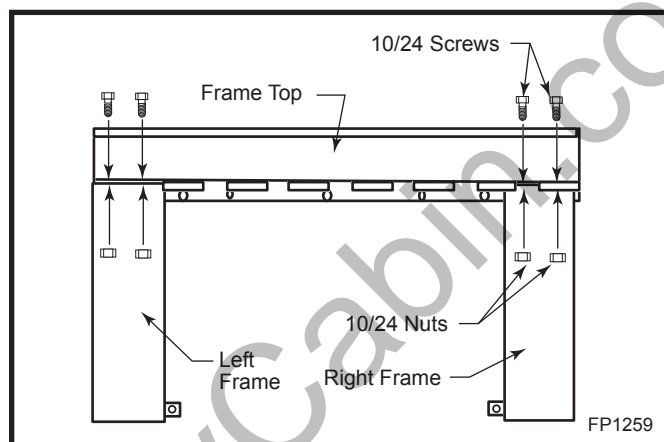

Fig. 39 Attache left and right frame to frame top.
2. Install the nuts and bolts. (Fig. 39)